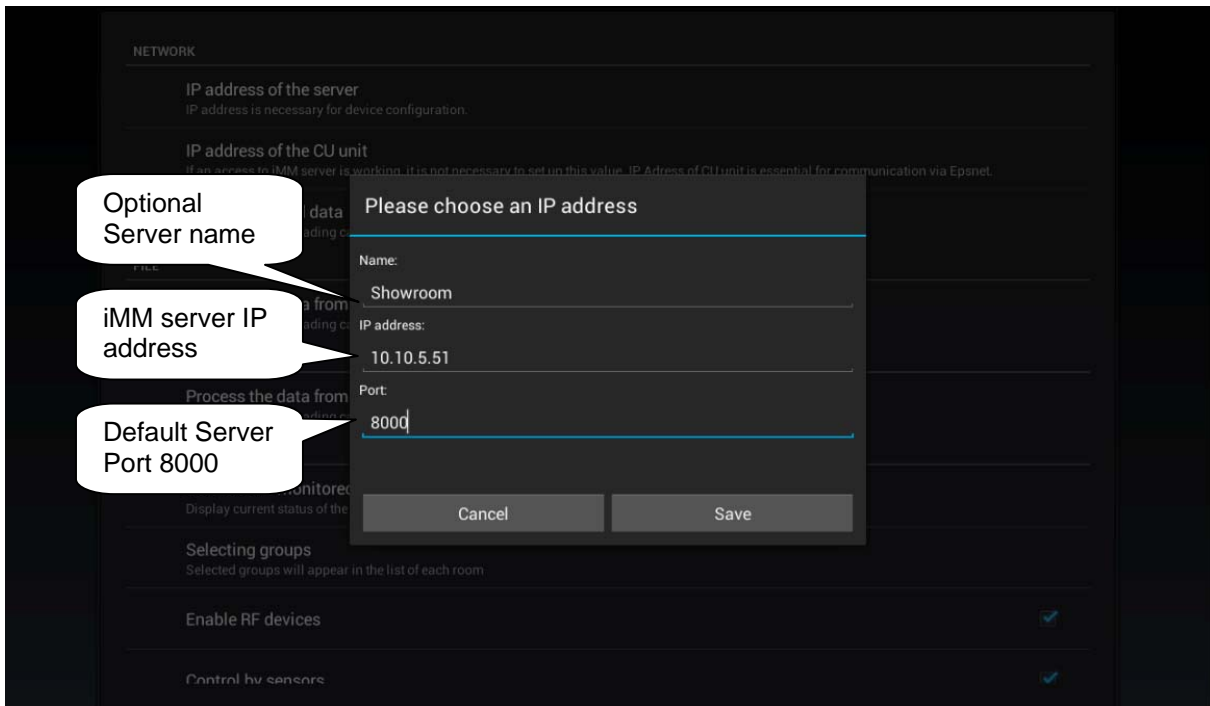

Figure 3 IP address of server
- a) The next step depends on whether you connect to IMM or Connection Server, or to a virtual server. The following figures anticipate connection to IMM or Connection Server. Select the button "server IP address" and a dialogue window displays for setting IP addresses. First add a new server by clicking the button "+" for adding servers. Then add an optional name and IP address of the server. Then enter the port – default is 8000. Click on add and tick this server. "OK" displays; click on it and confirm the changes. Window for setting the IP address of Figure 3.